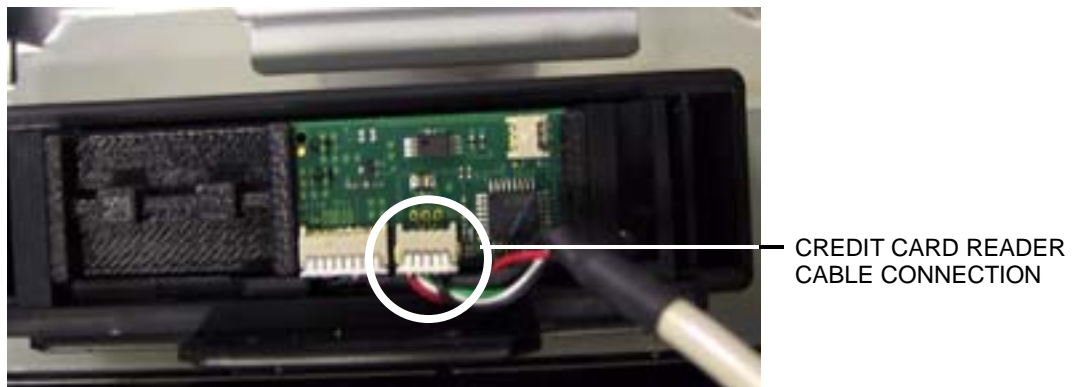

FIGURE 7 - TOP VIEW OF REMOVED CREDIT CARD READER
1. Disconnect the credit card reader cable from the removed credit card reader (see Figure 7). Connect this cable to the new credit card reader in the same fashion it was attached to the old one.